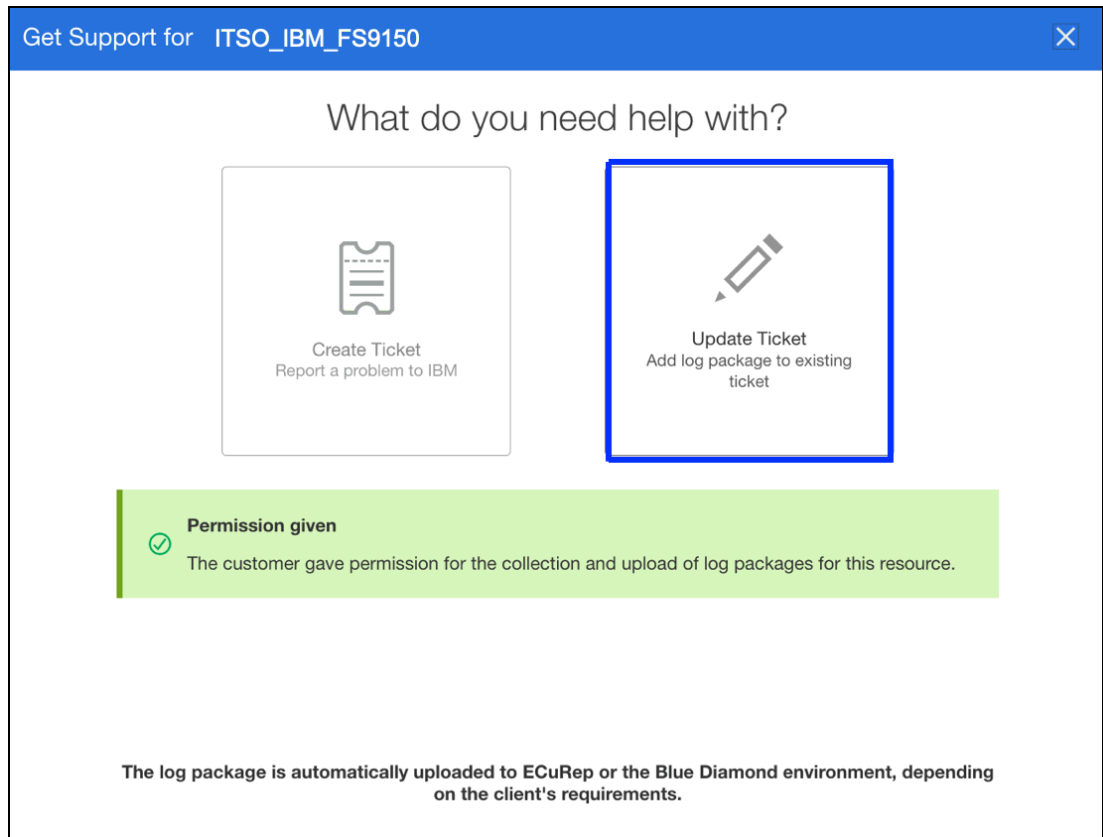

Figure 11-20 SI Update Ticket
2. Select the option to update an existing ticket, as shown in Figure 11-20 on page 519.